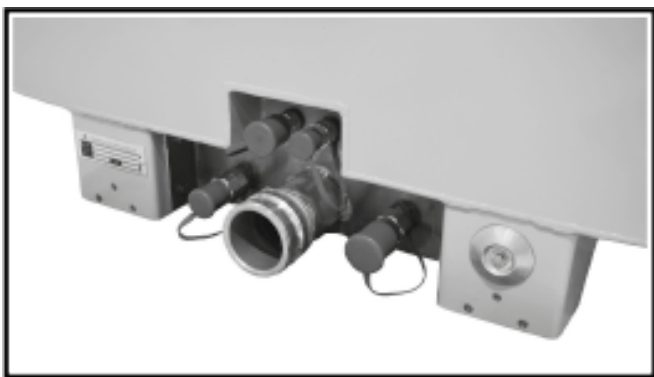

Fig. 7 – Hydraulic Inlets/Outlets & Discharge Port
6. Connect the skimmer with the power unit with the hydraulic hoses and through the hydraulic ports (Fig. 7).